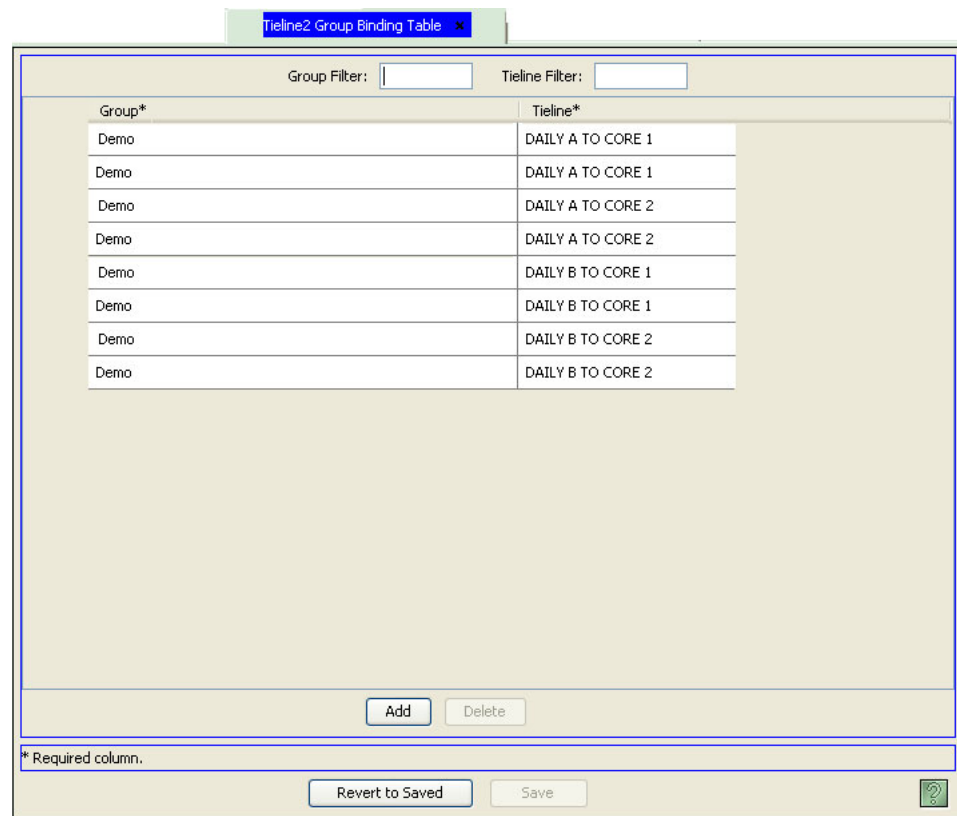

Figure 16-26. Tieline Group Binding Table
- 2 From the Navigation area, select the 'Views' pane and then 'Tieline Group Binding'. The 'Tieline Group Binding' table appears, as shown in Figure 16-26.